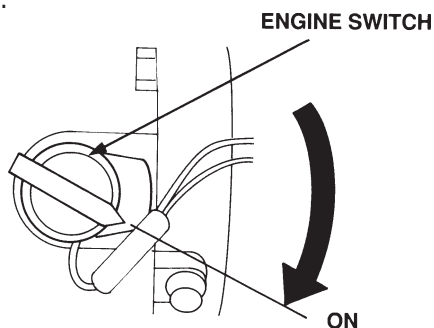

Figure 18. Engine ON/OFF Switch (ON Position)
- Place the **engine ON/OFF switch** (Figure 18) in the "**ON**" position.